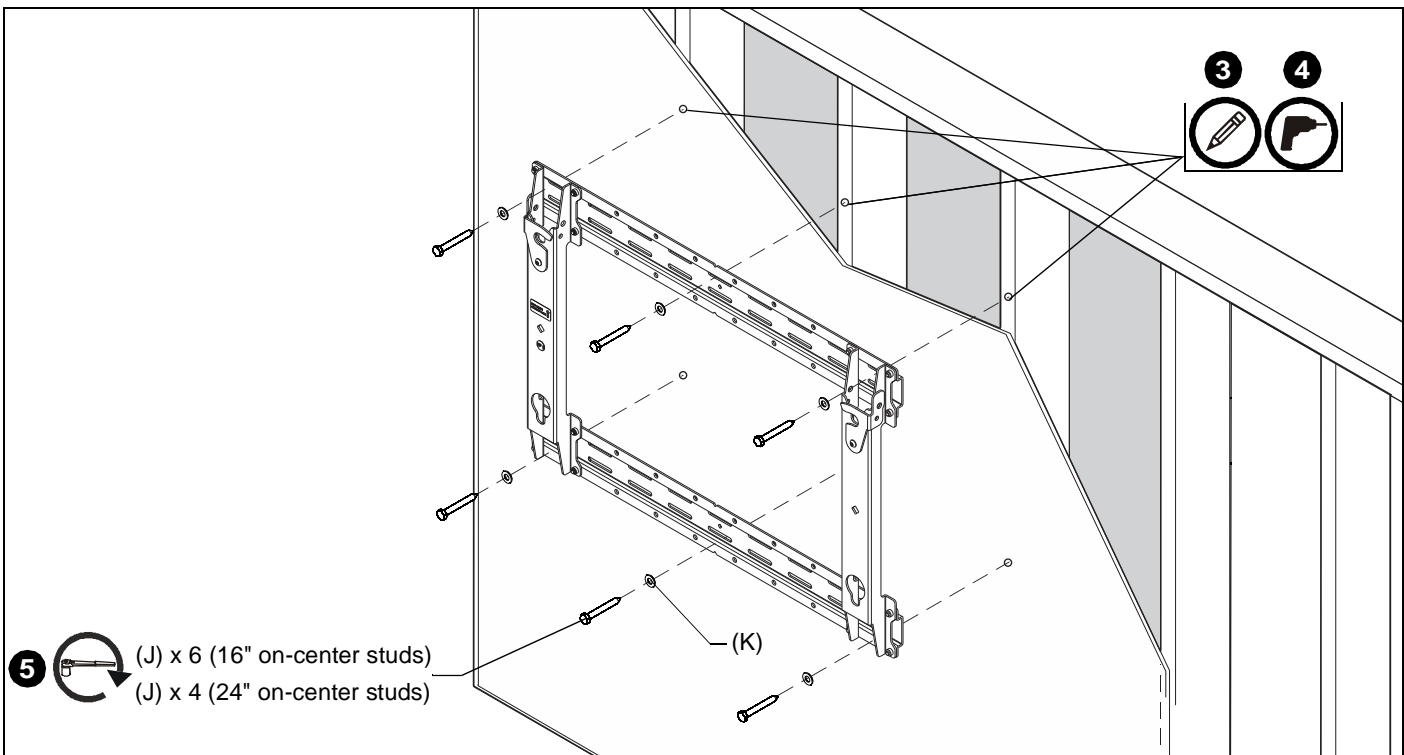

Figure 2
3. Using a pencil, or similar marking tool, mark the location of six mounting holes (or four mounting holes for 24" on-center studs) in horizontal brackets onto surface. (See Figure 2)
5. Secure mount to studs using six 5/16 x 2-1/2" lag screws (J) and six 5/16" (K) flat washers [or four lag screws and four washers for 24" on-center studs]. (See Figure 2)